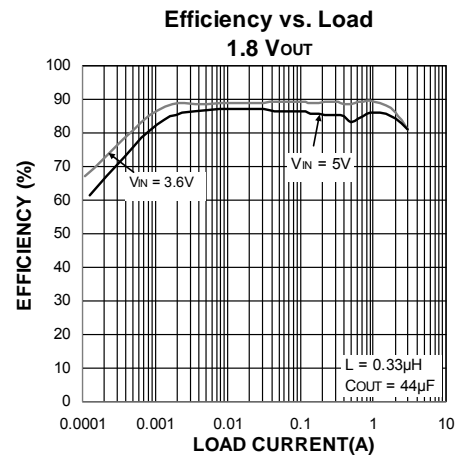

Figure 2. Efficiency Under Load
- $\eta @ 2A = 85\%$ (worst case @ 5v from Figure 2)